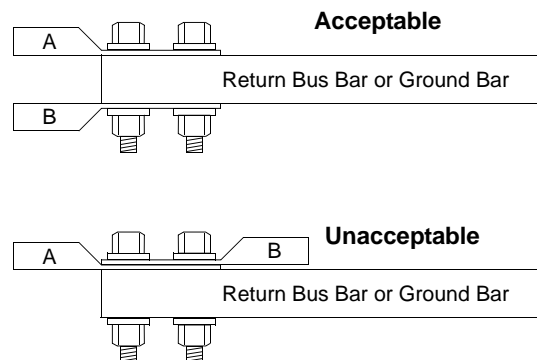

Figure 12 - Connection Examples
- The installer may combine the *A* and *B* return feeds in a back-to-back arrangement, sandwiching the bus bar between the two lugs, as shown in Figure 12.